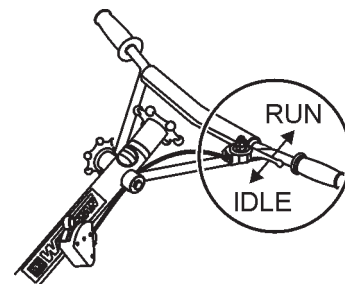

Figure 27. Throttle (Run Position)
- To begin troweling, pull the throttle lever (Figure 27) toward the "RUN" position.